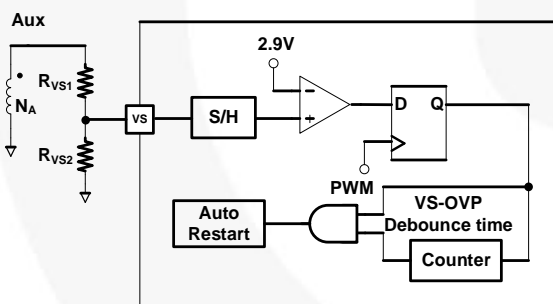

Figure 47. VS-OVP Protection Circuit
VS over-voltage protection prevents damage caused by output over-voltage condition. It is operated in Auto-Restart mode. Figure 47 shows the internal circuit of VS-OVP protection. When abnormal system conditions occur, which cause VS sampling voltage to exceed  $V_{VS-OVP}$  (2.9 V) for more than 2 consecutive switching cycles ( $N_{VS-OVP}$ ), PWM pulses are disabled and FAN602 enters Auto-Restart protection. VS over-voltage conditions are usually caused by open circuit of the secondary-side feedback network or a fault condition in the VS pin voltage divider resistors. For VS pin voltage divider design,  $R_{VS1}$  is obtained from Equation (10), and  $R_{VS2}$  is determined by the desired VS-OVP protection function as: